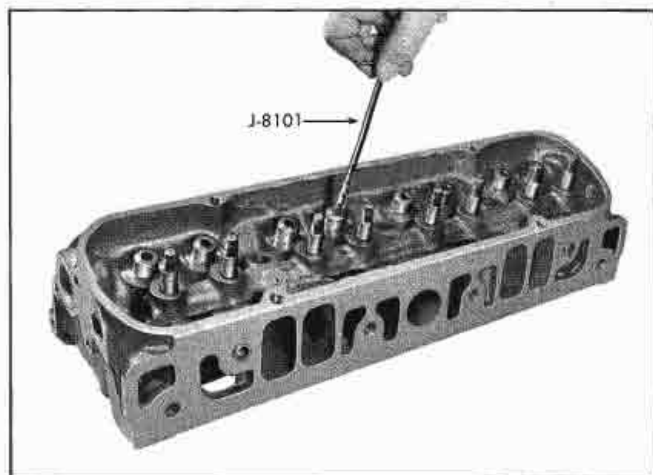

Fig. 6-34 Cleaning Valve Guide with J-8101
4. Clean valve guides thoroughly using valve guide cleaner J-8101 (Fig. 6-34).